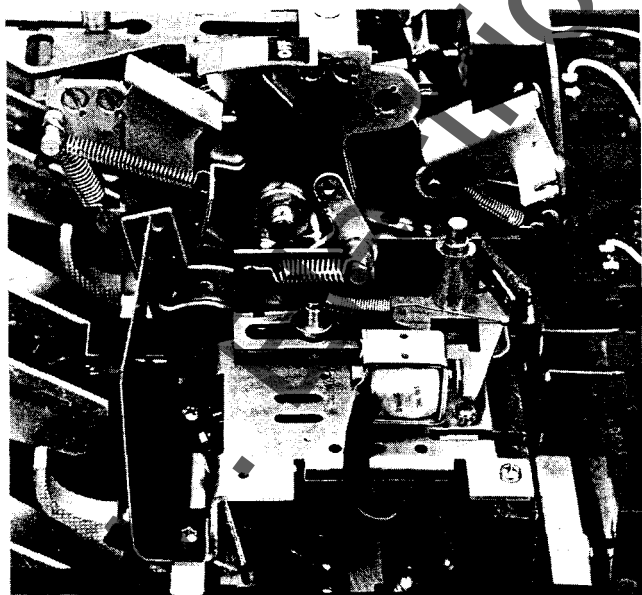
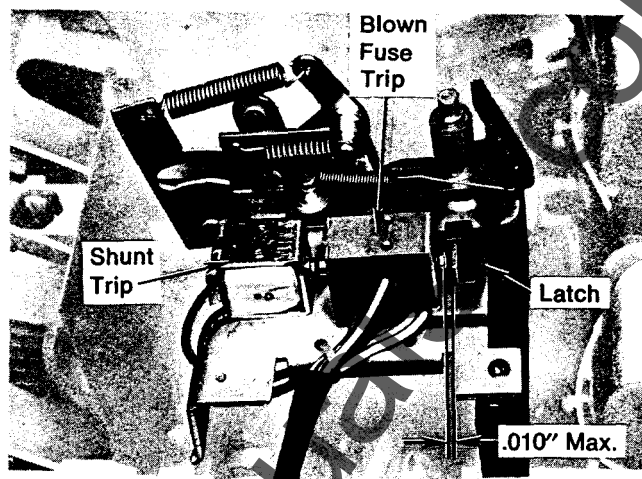

FIG. 23
FIG. 24
1. Remove three (3) mounting plate retaining screws and isolation barrier, See Fig. 23.
1. Assemble coil to mounting plate as shown in Fig. 23. If the mounting plate is also to be equipped with a blown-fuse trip device, mount the shunt trip as shown in Fig. 24.
4. Remove knockouts as required in side of base. Each knockout will accommodate up to three bundles of wires (Fig. 23). Remove all sharp edges with a file.